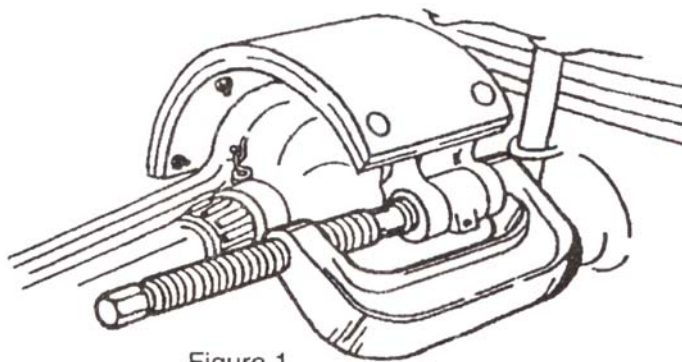

Figure 1
2. Position the C-frame press over the brake spider as shown in Figure 1.